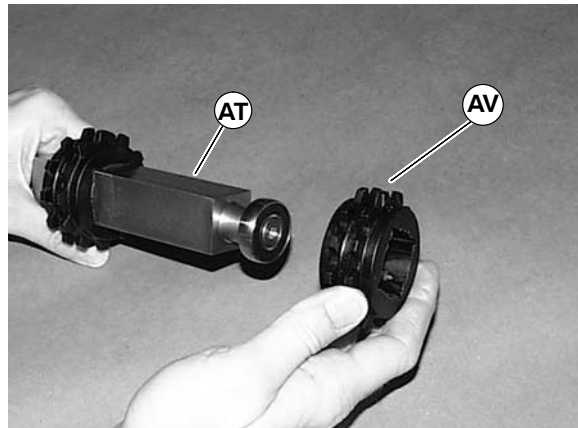

Figure 31
3. Slide free moving sprocket(s) (AV of Figure 31) off the end of pulley (AT).